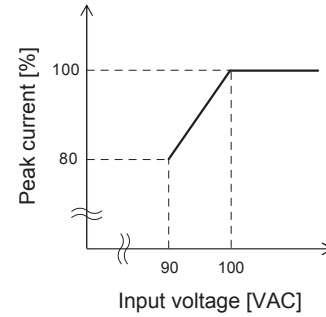

Fig.8.2 Peak current derating curve depending on input voltage
- $I_p \leq \text{Rated peak current}[\text{A}]$ Refer to Fig 8.2